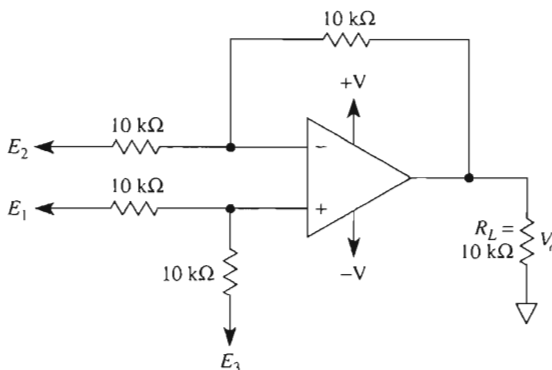

FIGURE P8-16
- 8-16. Refer to the circuit of Fig. P8-16. Complete the table below for each input condition.